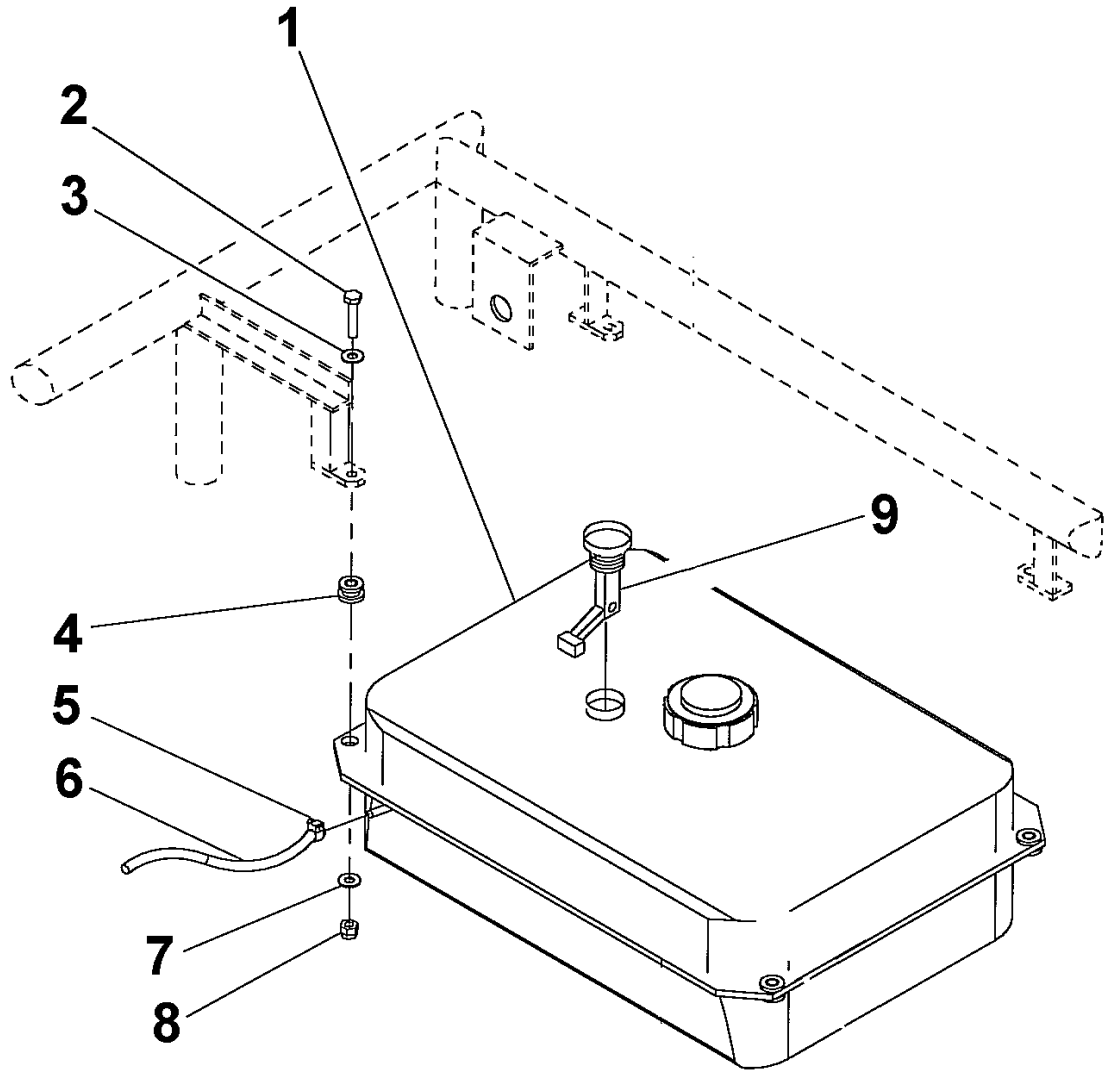

Figure 1. Fuel Tank and Fuel Gauge.
5. Remove fuel gauge (9) from the fuel tank (1) by reaching into the tank and pushing the gauge up and out of the tank. See Figure 1.
1. Refer to Figure 1 for this procedure section.
2. Install the rubber bushings (4) if necessary.
4. Secure the tank with bolts (2), washers (3), nuts (8) and washers (7).
5. Install fuel return line (6) on the tank (1) and tighten clamp (5).
6. Install fuel gauge (9) on tank (1) by firmly pushing the gauge into the hole until seated.